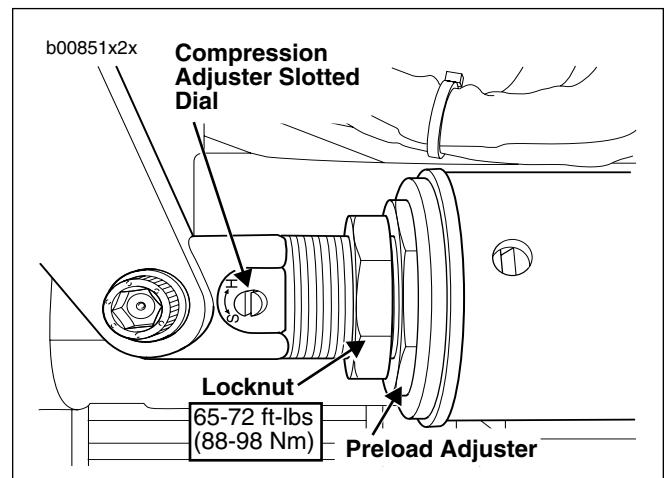

Figure 5. Preload and Compression Adjustments
- See Figure 5. To adjust shock preload, loosen the locknut and turn the preload adjuster at the end of the shock to move can towards front or rear of motorcycle.
- See Figures 5 and 6. To adjust rear shock to maximum damping setting, use screwdriver to turn slotted dial on appropriate adjuster clockwise until it stops. This is the maximum damping setting.
- See Figures 5 and 6. To adjust rear shock to factory recommended settings, turn dial counterclockwise from maximum damping the amounts shown in Steps 7 and 8 to align the reference marks.
- See Figure 5. Set compression damping using the slotted dial on the shaft at the end of the shock. New factory setting is as listed below: